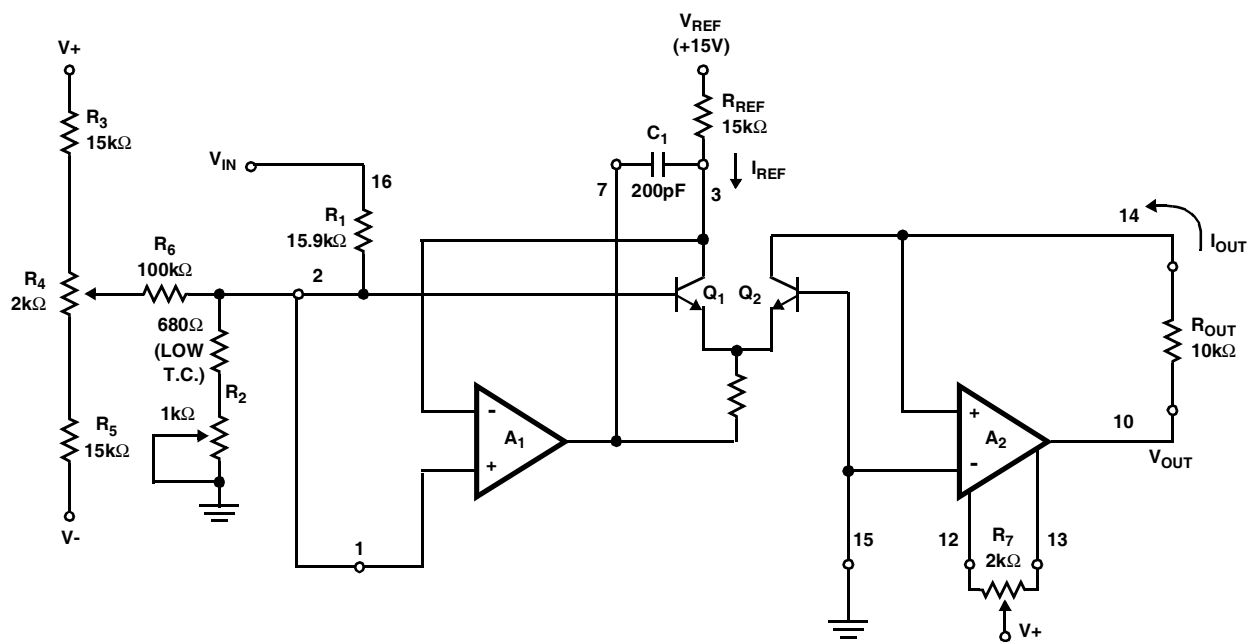

FIGURE 1. ICL8049 OFFSET AND SCALE FACTOR ADJUSTMENT
The ICL8049 relies on the same logarithmic properties of the transistor as the ICL8048. The input voltage forces a specific ΔV_{BE} between Q_1 and Q_2 (Figure 1). This V_{BE} difference is converted into a difference of collector currents by the transistor pair. The equation governing the behavior of the transistor pair is derived from (2) on the previous page and is as follows:
As with the log amplifier, the antilog amplifier requires three adjustments. The first step is to null out the offset voltage of A_2 . This is accomplished by reverse biasing the base-emitter of Q_2 . A_2 then operates as a unity gain buffer with a grounded input. The second step forces $V_{IN} = 0$; the output is adjusted for $V_{OUT} = 10V$. This step essentially “anchors” one point on the transfer function. The third step applies a specific input and adjusts the output to the correct voltage. This sets the scale factor. Referring to Figure 1 the exact procedure for 1 decade/volt is as follows: